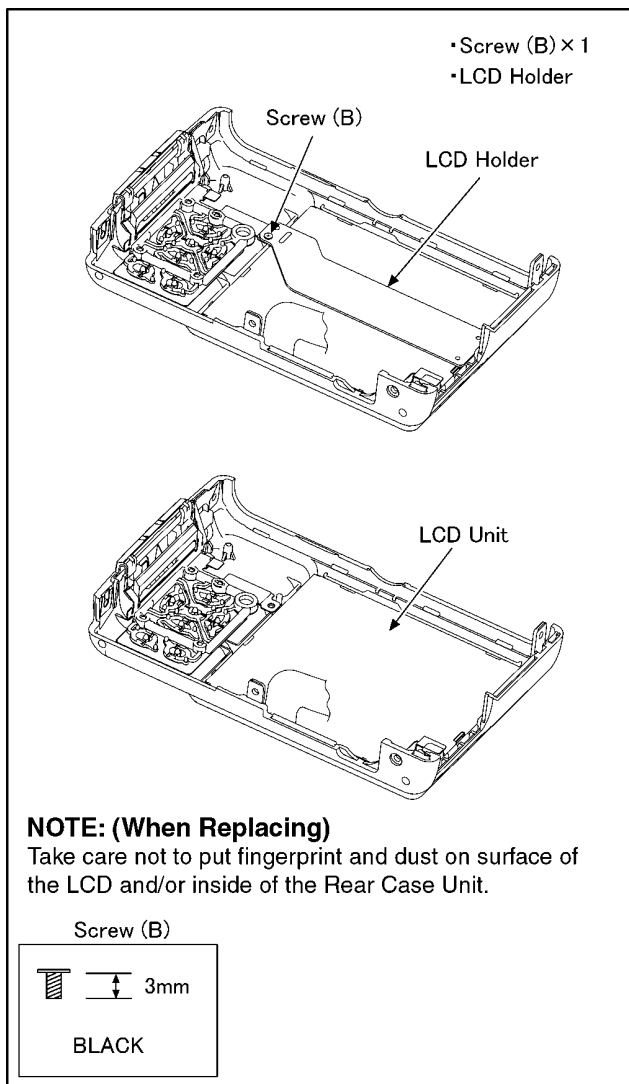

Fig. D2
| 2   | LCD Unit         | Fig. D2            | 1 Screw (B)LCD HolderLCD Unit   |